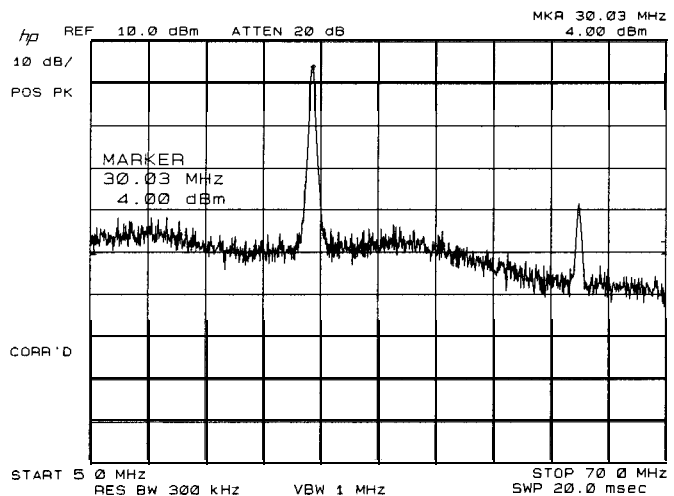

Figure 3-75.
46. The IF OUT fundamental and second harmonics should be visible at approximately 30 MHz and 60 MHz on the display of the second spectrum analyzer, as shown in Figure 3-75. Key in **MARKER** **NORMAL** 30 MHz to position a marker at 30.03 MHz on the display of the second spectrum analyzer.